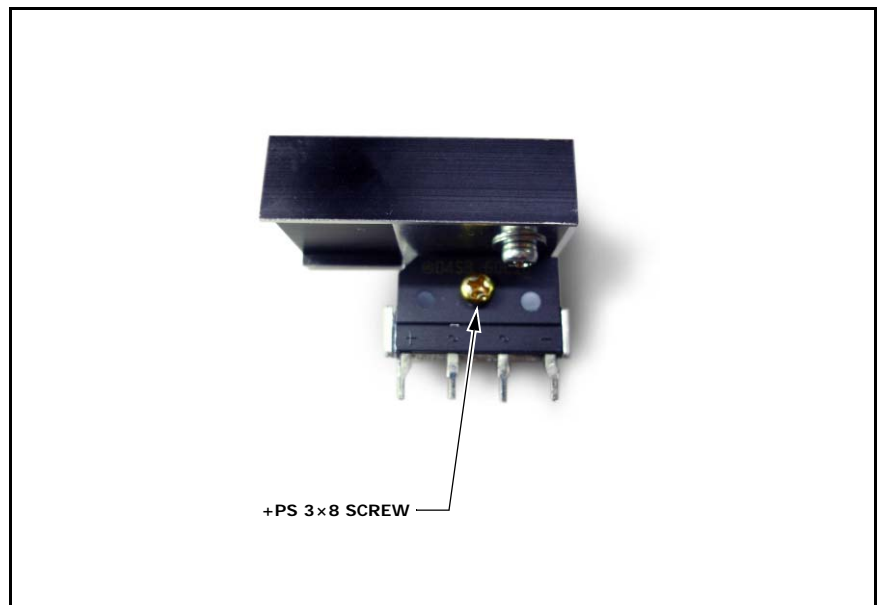

Figure 6
- b. Attach D6000 to the heat sink G, reusing the +PS 3×8 screw, and applying bond to secure D6000. (See Figure 6.)